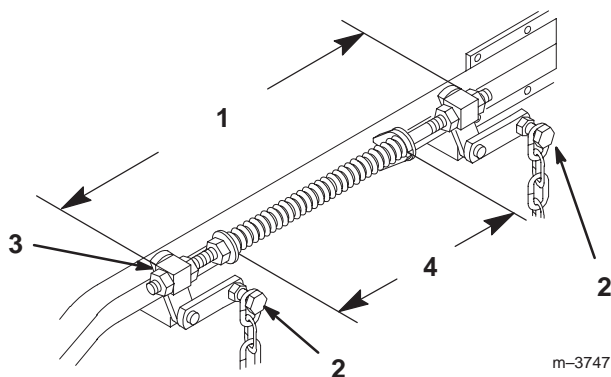

Figure 59
- Loosen four (4) top chain bolts in slots. Check the length of the rod/swivel assemblies. Distance from outside of rear swivel to outside of front swivel should be 19–17/32 inch (496 mm) (Fig. 59). Make sure that all four swivels move freely in holes.
2. Springs are compressed so the distance between the two large washers should be 10-1/4 inch (260 mm) (Fig. 59).
3. Adjust by turning nut in front of each spring (Fig. 59). Clockwise will shorten spring; counter-clockwise will lengthen spring.